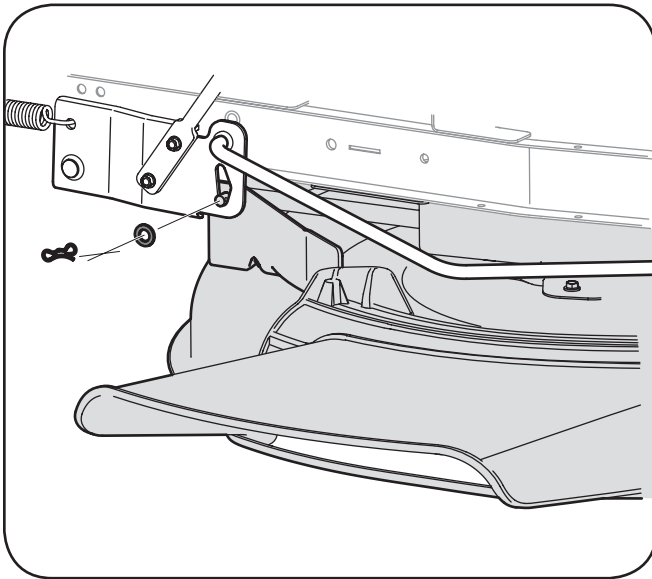

Figure 7-1
3. Remove the bow-tie cotter pin and flat washer from the deck lift assembly, and retain for reinstallation later. See Fig. 7-1.